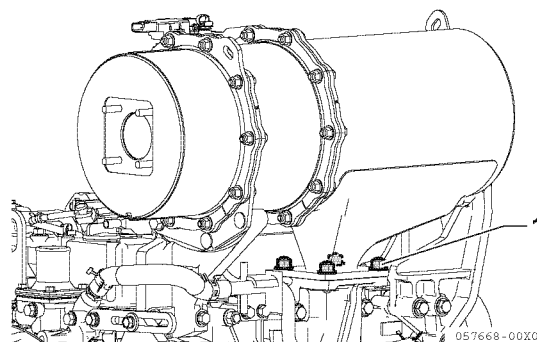

Figure 13-29
- Replace the exhaust manifold flange gasket with a new one, place the DPF unit upon this, and temporarily tighten the flange nuts (4 pcs.) (**Figure 13-29, (1)**).